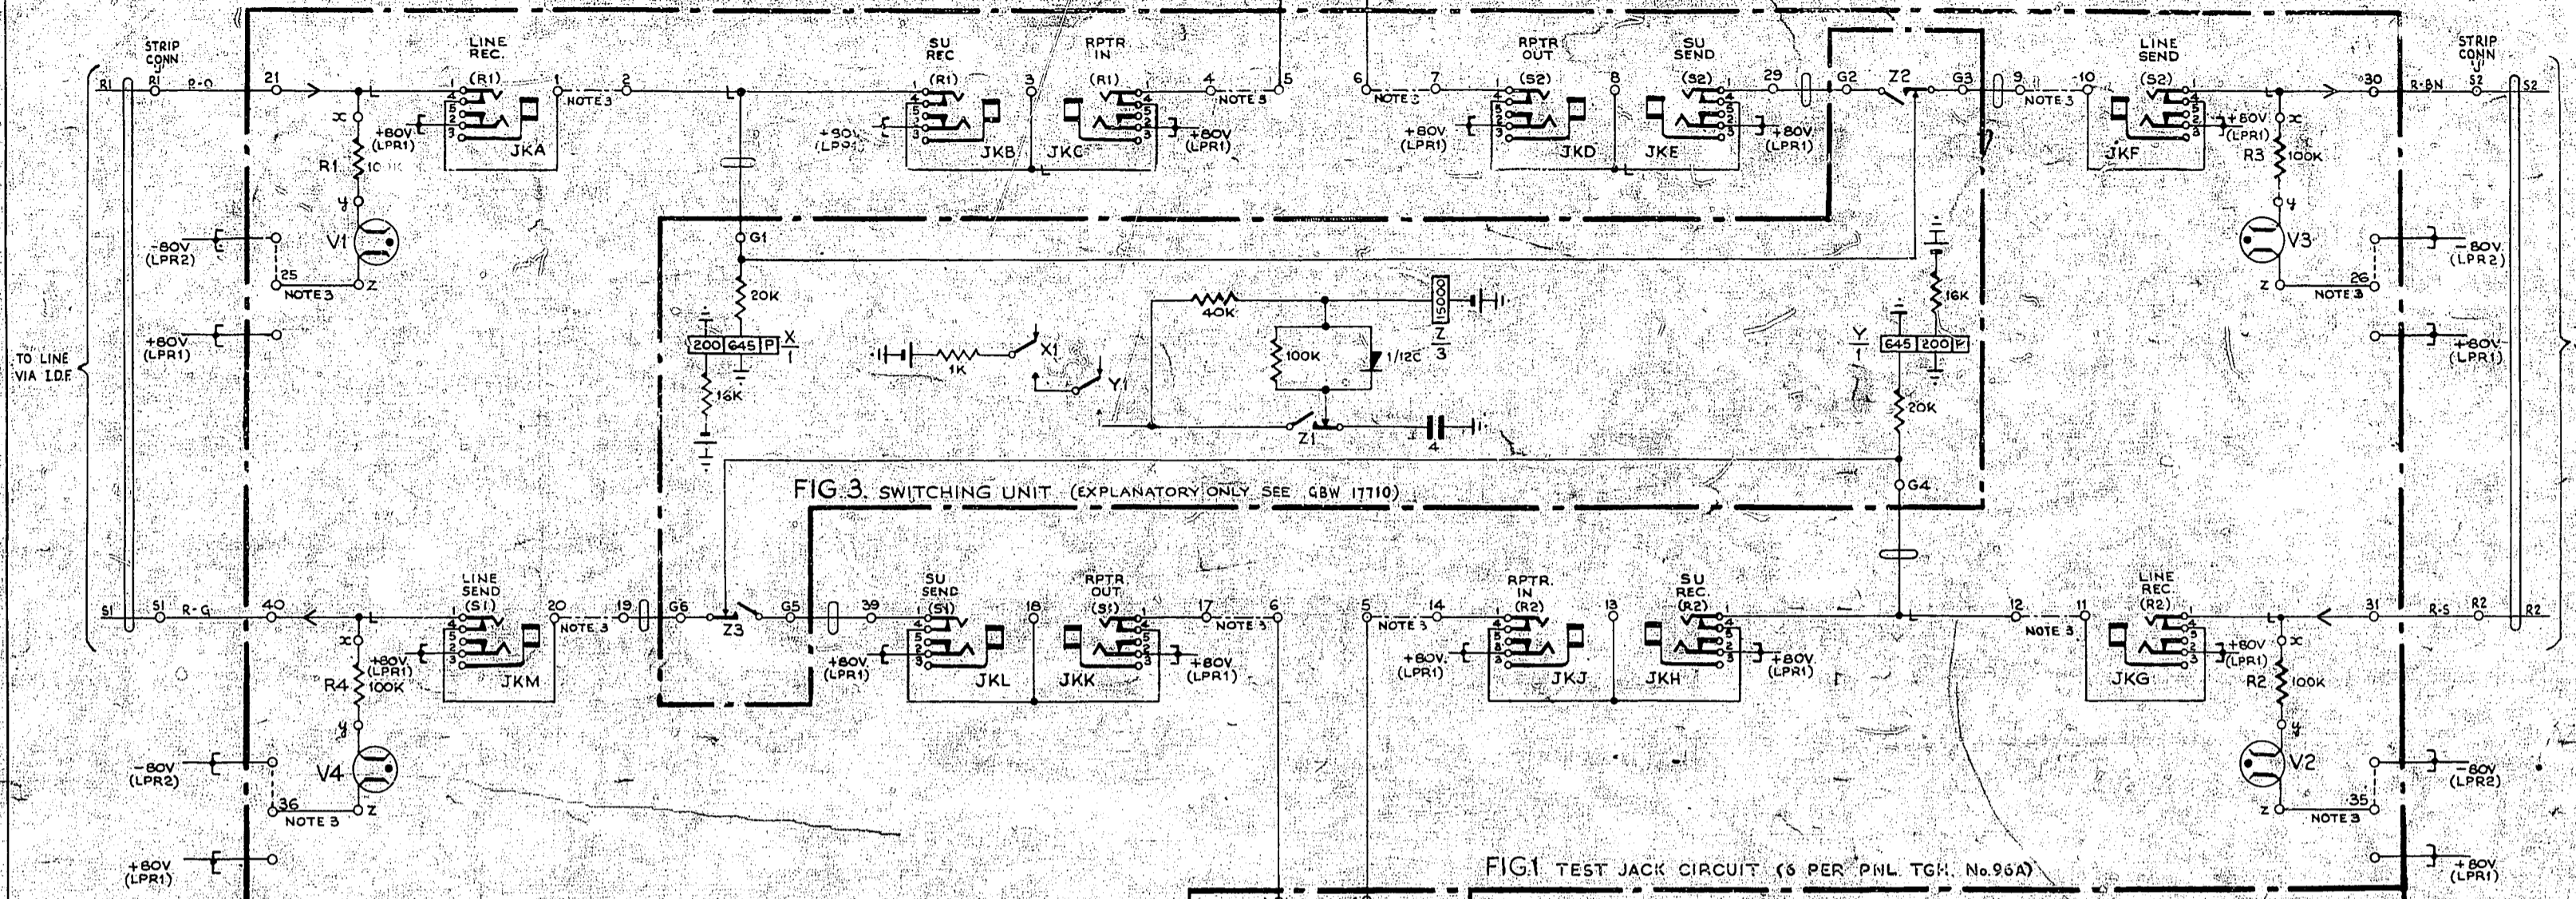

FIG. 1 TEST JACK CIRCUIT (6 PER PNL TGH. No. 96A)
1. THE NUMBERED TAGS SHOWN WITHIN FIGS 1 & 2 ARE LOCATED ON STRIP CONNECTION 'H' WHICH FORMS PART OF PANEL TELEGRAPH No. 96A. SEE GBW 17730 OR EQUIV.